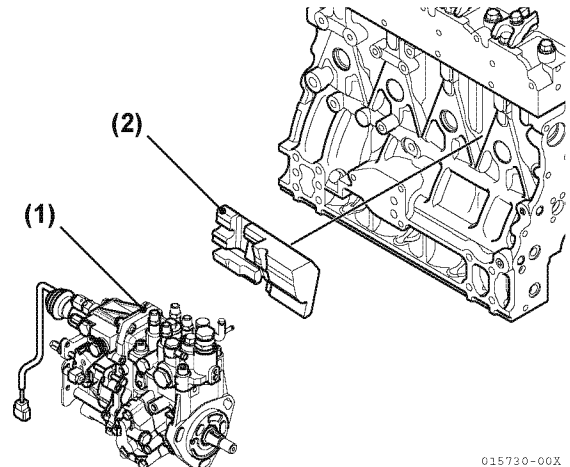

Figure 6-50
12. Verify the fuel injection pump insulator (**Figure 6-50, (2)**) is not damaged, if equipped. Reinstall the insulator and intake manifold if previously removed.